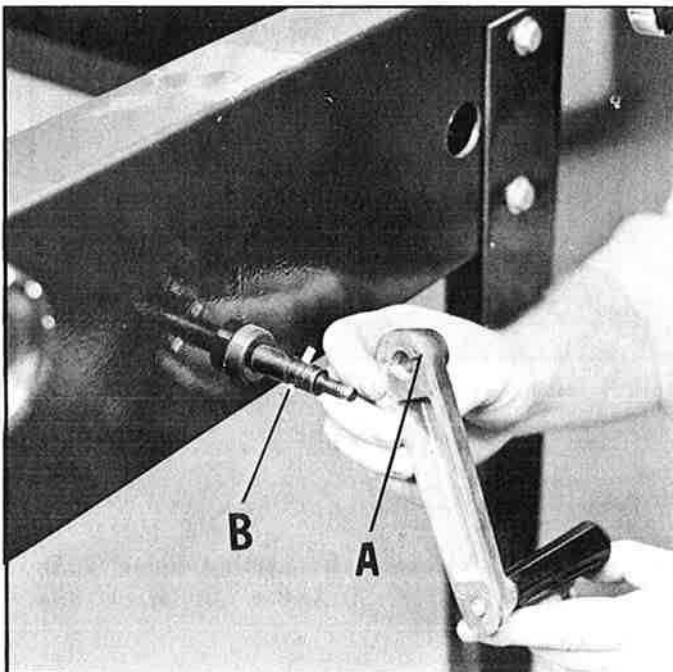

Fig. 3
2. Place the crank handle on the end of the elevating shaft, lining up the grooves (A) in the handle with the shear pin (B) as shown in Fig. 3. Then assemble the nut to the end of the elevating shaft.